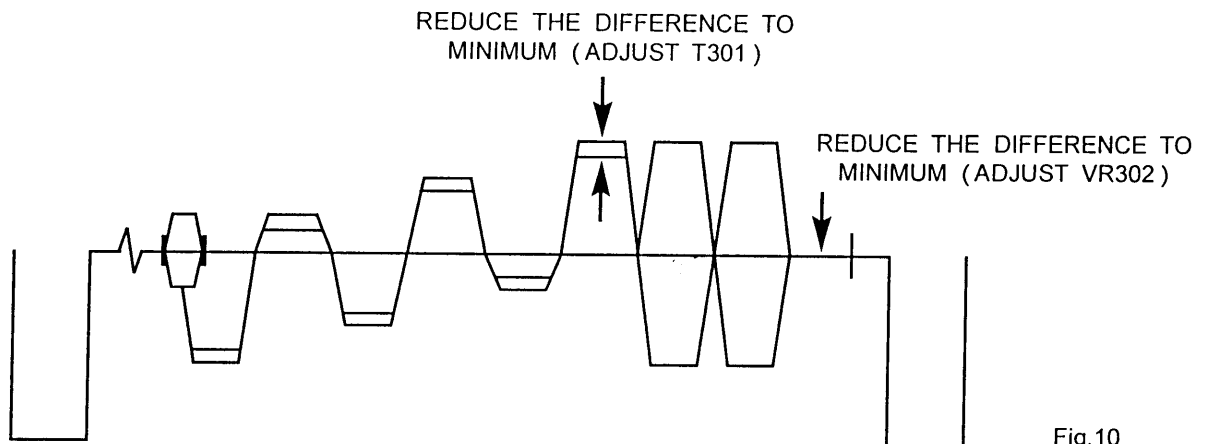

Fig.10
4. Adjust T301 and VR302 to obtain the waveform as Fig.10.